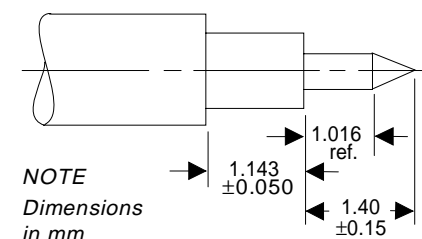

Figure 3. Trimming and Filing Center Conductor
- Insert the cable into position 5 of the 01-309 fixture until the outer conductor bottoms in the hole and the center conductor is protruding from the back of the fixture. While rotating the cable in the hole of the fixture, carefully file the center conductor to a smoothly tapered tip. Refer to Figure 3.